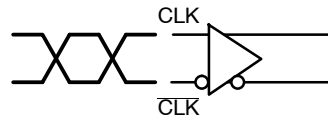

Figure 11. Differential Inputs Driven Differentially
**Differential Inputs Driven Differentially** (see Figures 11 & 13) (Note 4)